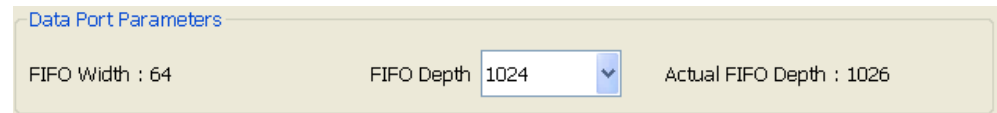

Figure 10-7: AXI4 Interface FIFO: Page 4 - FIFO Depth Selection
- Write Depth of Native FIFO can be set through FIFO Depth on Page 4 of the AXI4-Stream FIFO GUI, as shown in Figure 10-7.